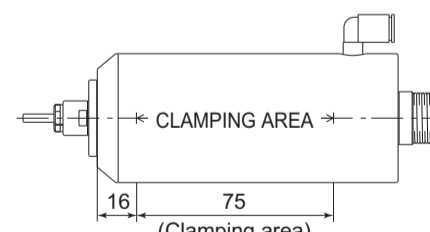

Fig. 6
- ① When mounting a Spindle, refer to the Clamping Area etched on the Spindle (Fig. 6).